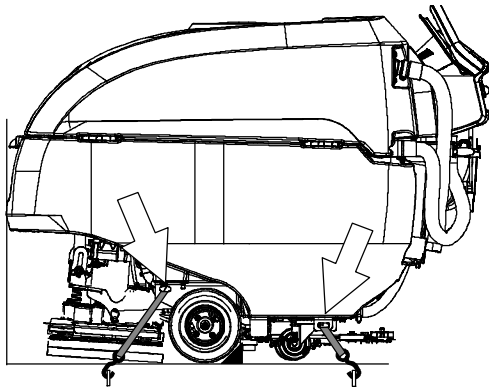

FIG. 95
4. Place a block behind each wheel (Figure 95).
5. Using tie-down straps, secure the machine using the four tie-down brackets located on the machine frame (Figure 95). It may be necessary to install tie-down brackets to the floor of your trailer or truck.